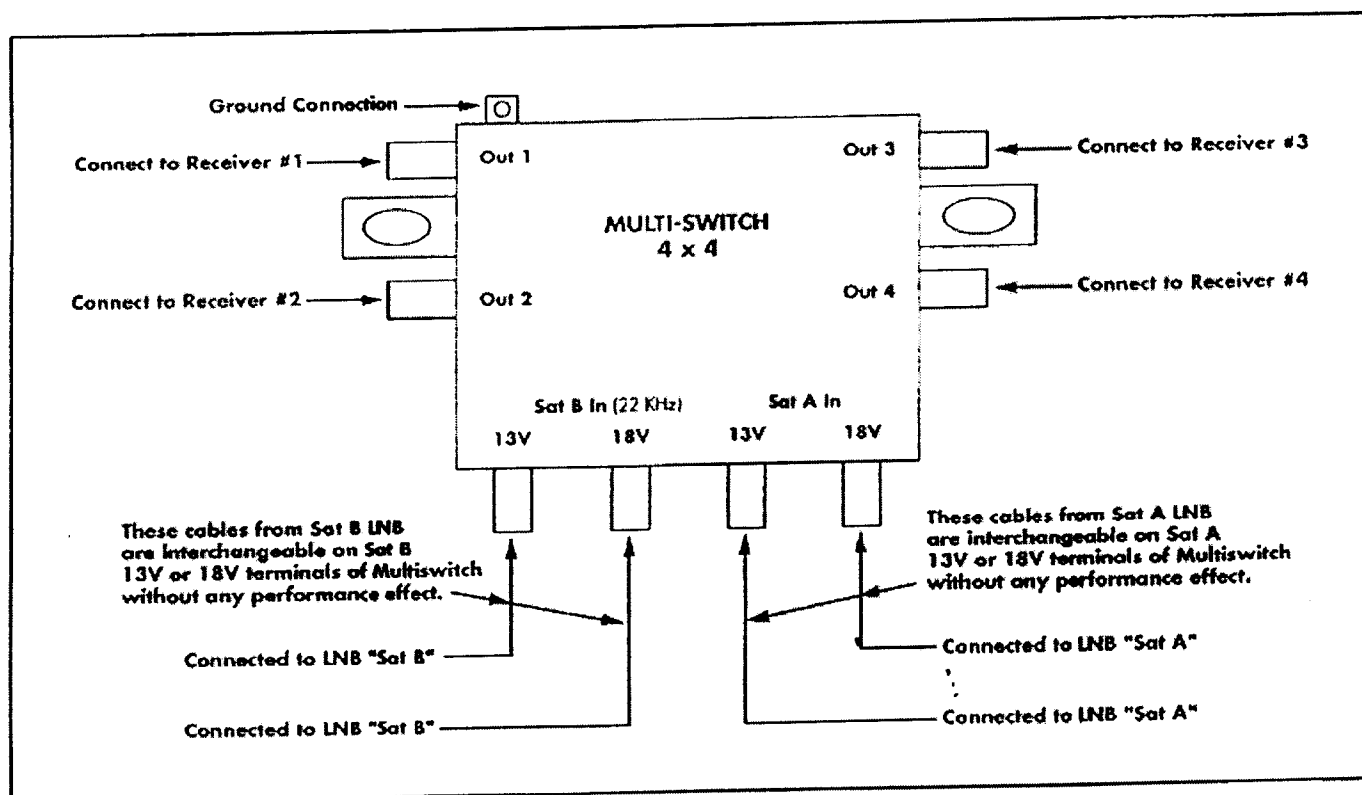
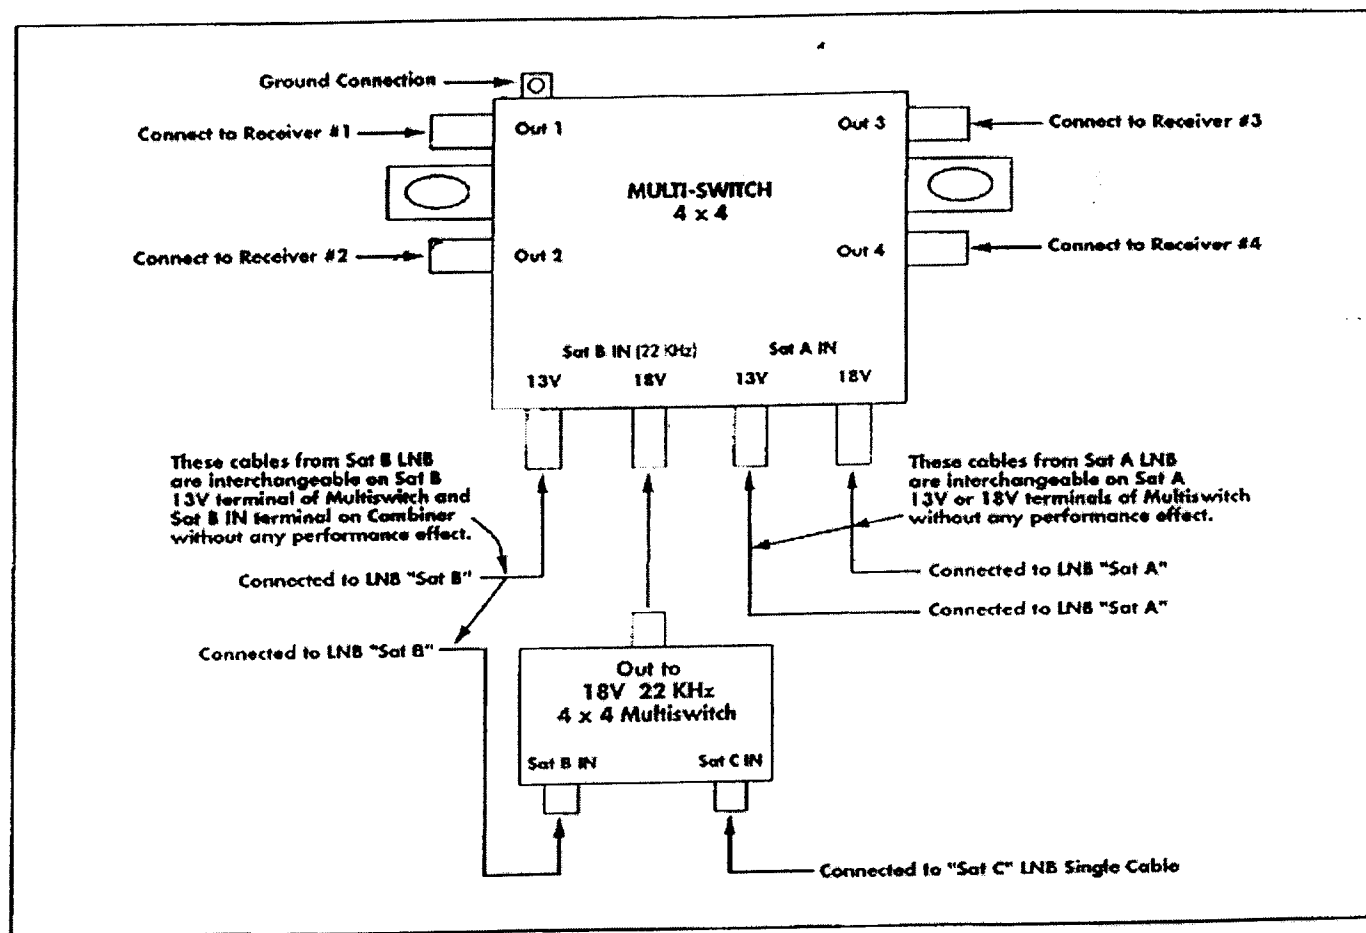

FIGURE 9
FIGURE 9A
20. Review Figure 9 if only the two LNBs ("Sat A" and "Sat B") are being used or review Figure 9A if the three LNBs ("Sat A", "Sat B" and Optional "Sat C") LNB's are being used.
21. Connect opposite loose end of the cables labeled "Sat A" from "Sat A" LNB to the multi-switch "Sat A" terminals as shown in Figure 9. It does not matter which "Sat A" labeled cable connects to 13V or 18V Multi-switch terminals—they are interchangeable.
22. Repeat for connecting opposite loose end of the cables labeled "Sat B" to the multi-switch "Sat B" terminals as shown in Figure 9. Or if Optional Sat C is being used, see Figure 9A. It does not matter which "Sat B" labeled cable connects to 13V or 18V Multi-switch terminals (Fig. 9) or in the Optional (Fig. 9A) 13V and Combiner terminals—these two Sat B cables are interchangeable in either installation.
- Attach loose end of the "Sat C" labeled cable (from the Sat C LNB), to the "Sat C In" terminal on the Sat B and Sat C Combiner. See Figure 9A.